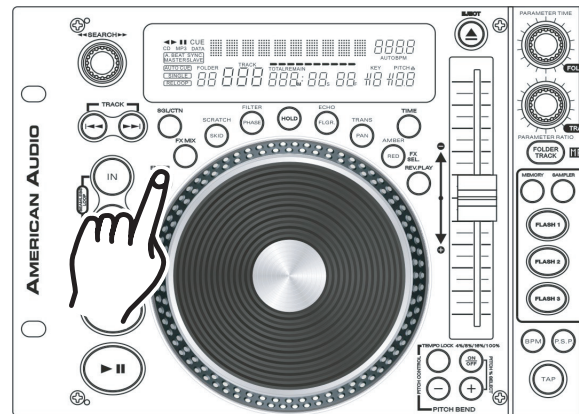

Figure 33
15. CHANGING THE TIME DISPLAY (65)\TIME BAR (63):
DURING NORMAL PLAYBACK, pressing the *TIME BUTTON* (10), will change the time display information (65 & 63) in the *VFD* (17) see figure 33. The following is a break down of the time settings and their definitions:
- 1) **ELAPSED** - This describes the time in the VFD (65) as the current TRACKS Elapsed running time.
- 2) **REMAIN** (64) - This describes the time in the VFD (65) as the current TRACKS remaining running time.